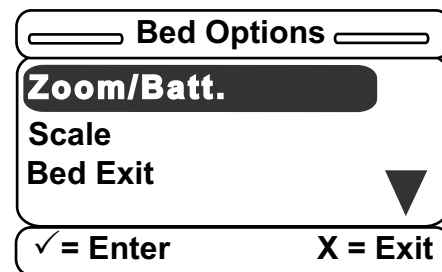

Figure 29 – Bed Options menu
- After you select **Bed Option**, the Bed Options menu displays (Figure 29). Each option must be set to OFF, ON, or a variety of the option (i.e. **Zoom/Batt.** or **Bed Exit**).